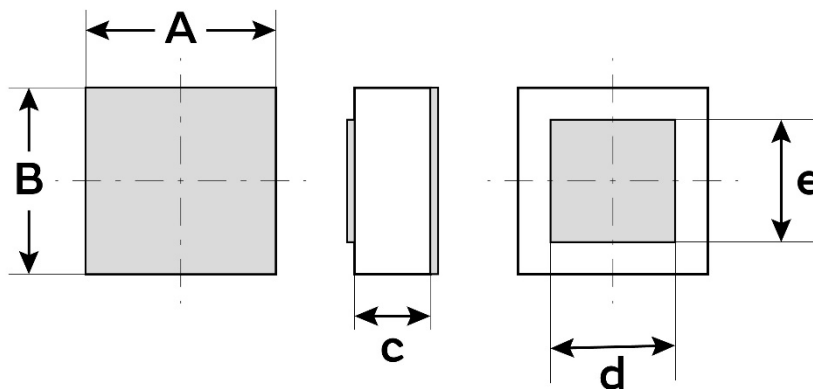

Figure 7 - Package outline drawing
- (1) Other film frame carrier are possible on request
- (2) Au = TiWAu (0.3µm) / Au (3µm)
- (3) Refer to Figure 7